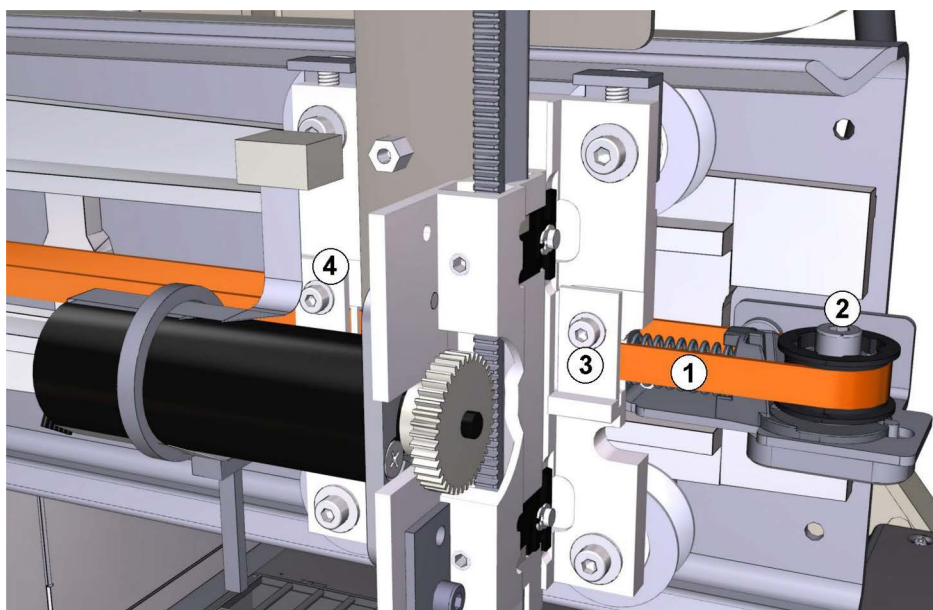

Figure 13-23: Y-belt fixing plates and tightening device
4. Loose tension screw of the Y-belt tightening device (see figure 13-23: on page 13-25). Press it against the right side/tension spring and tighten tension screw.
5. Remove screw and cable clamp (1).